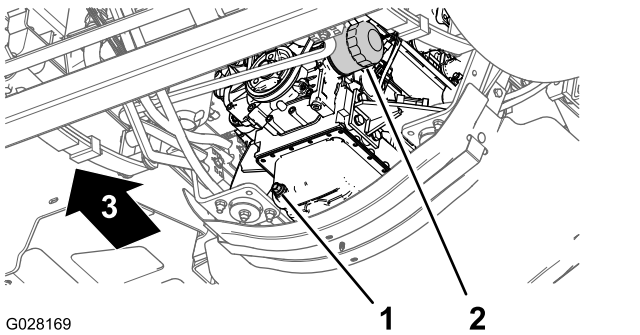

Figure 69
3. Align a drain pan under the engine-oil filter (Figure 69).
4. Remove the old oil filter (Figure 69).
8. Install the oil filter to the filter adapter and turn the oil filter clockwise until the rubber gasket contacts the filter adapter, then tighten the filter an additional 1/2 turn (Figure 69).
1. Align a drain pan under the drain plug (Figure 69).
2. Remove the drain plug (Figure 69) and allow the oil to drain completely.